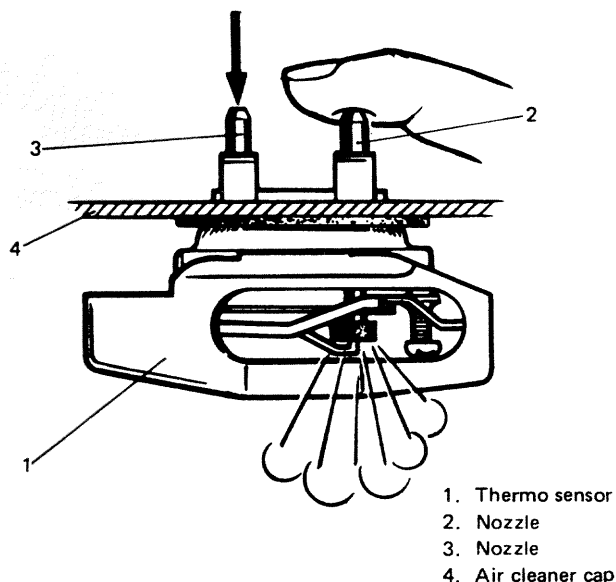

Fig. 5-3-6 Checking thermo sensor
- 4) Close a nozzle with finger and then blow air into nozzle. If measured temperature is above 40°C (104°F), air should come out of thermo sensor valve (valve is open) as shown in Fig. 5-3-6.